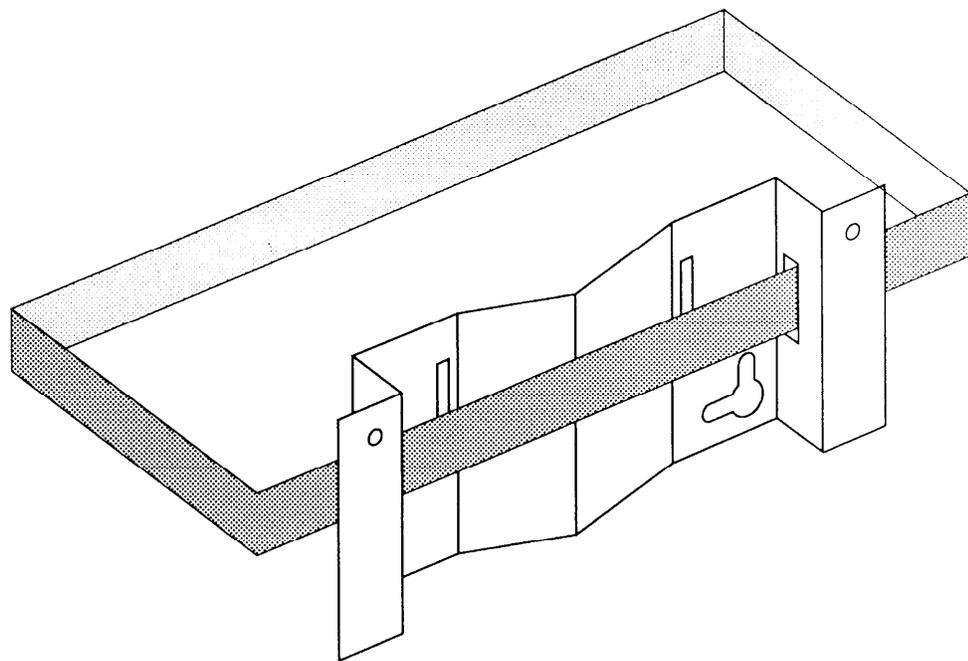

Fig. 5—Mounting the SNI-2125 to an I-beam.
3.08 Using the appropriate utility strapping or cable ties, mount the unit to the pole or I-Beam. Refer to figures 5 & 6.